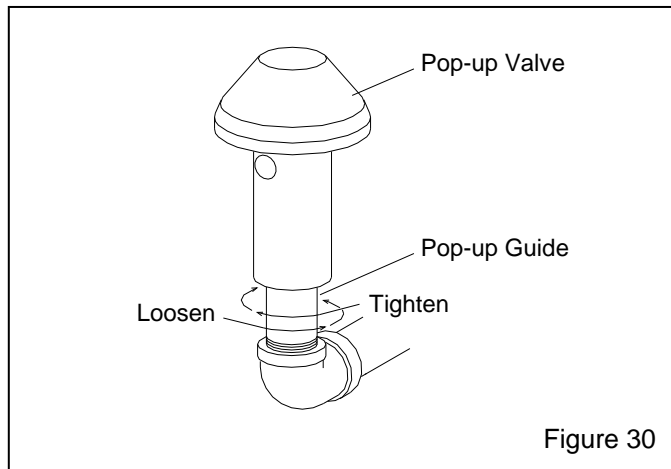

Figure 30
6.9 Replacing the Pop-Up Valve, Figure 30